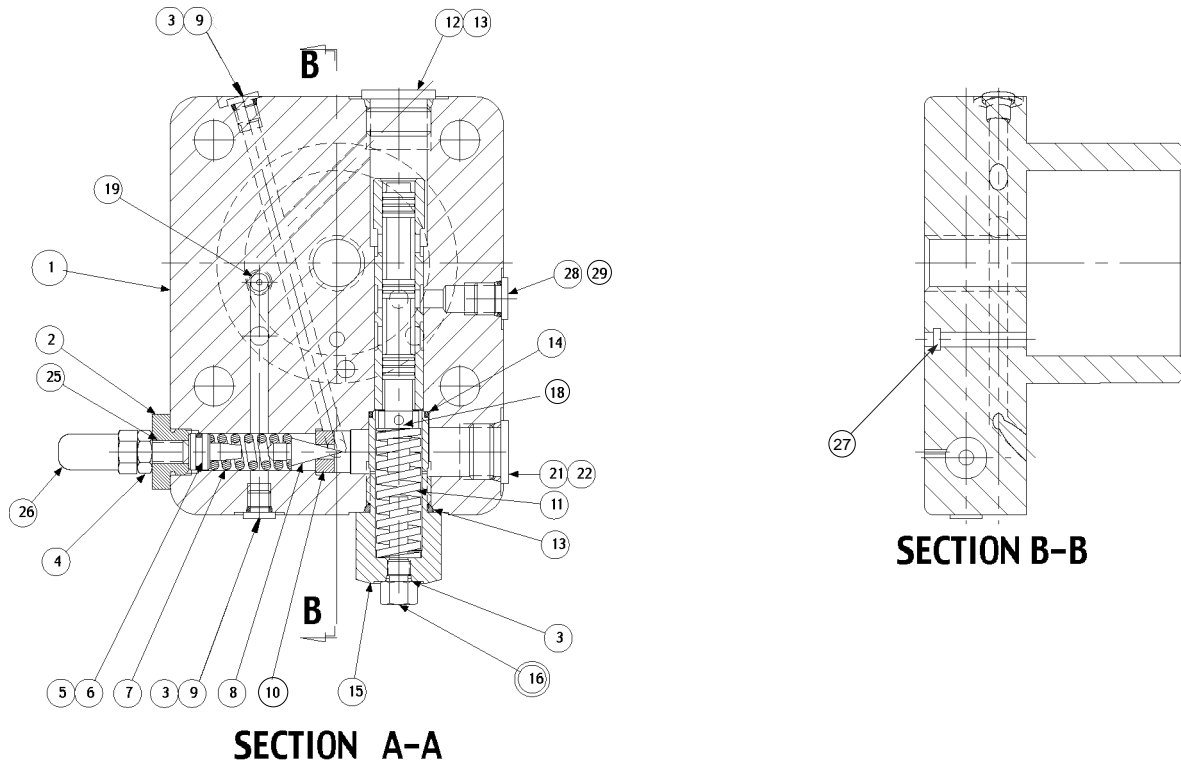
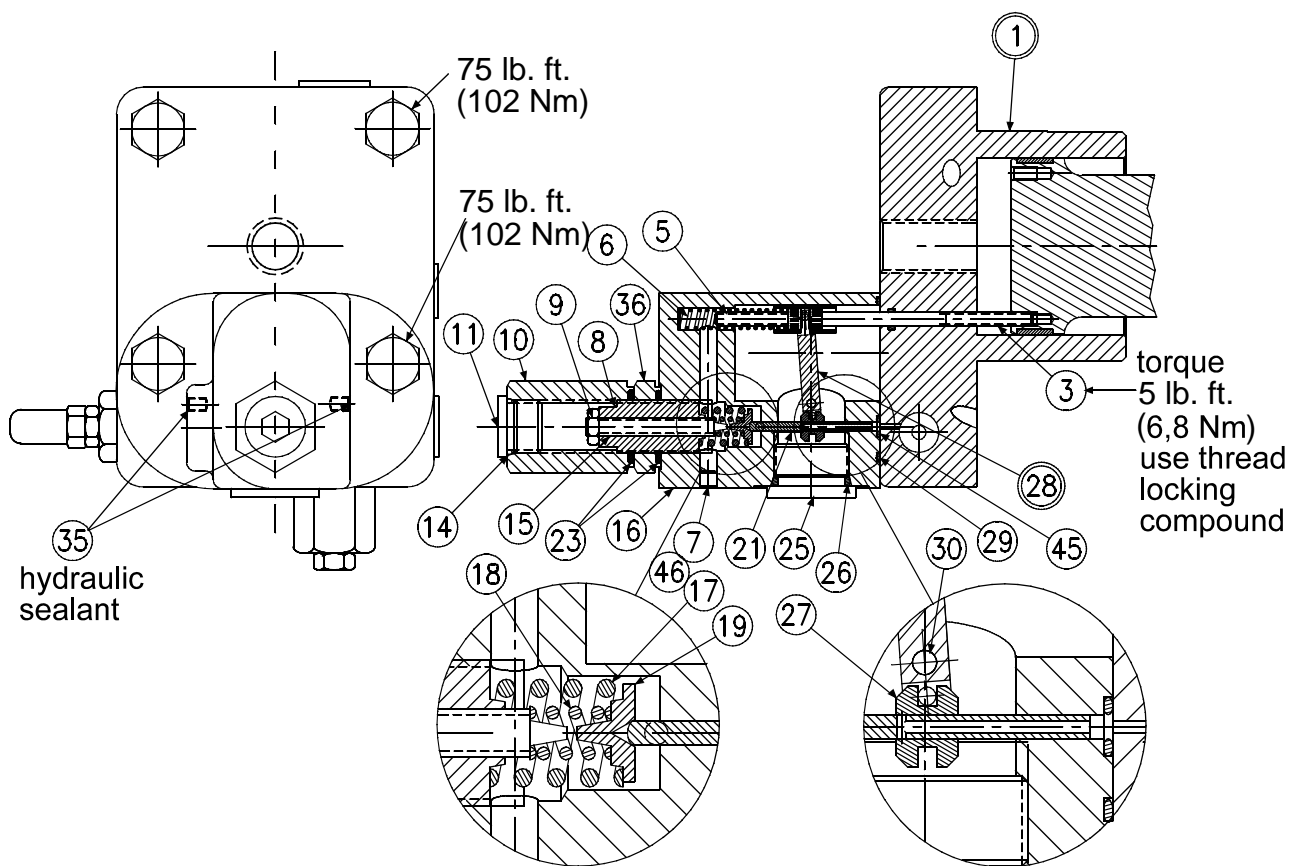

FIGURE 10
FIGURE 11
1. See Figure 11. Remove 2 screws holding torque limiter body (16) to cap assembly (1).
2. Remove all parts from torque limiter body (16) except pin (30) and arm assembly (28). It is not necessary to remove these parts unless broken or worn. Examine parts for wear or damage.
3. Remove screw (3). Examine head for excessive wear, and body for smooth sealing surface with O-ring.
5. Remove cap assembly (1).
6. See Figure 10. Remove plug (15) and attached parts. Remove spring (11) and spool (18).
7. Remove adjusting plug (2) and attached parts. Remove spring (7) and cone (8).
8. Do not remove sleeve in body (1). Sleeve is pressed into cap and finished to size. If sleeve or cap is worn, replace the cap-sleeve assembly (1).
9. Examine seat (10) for wear. Do not remove unless damaged.
1. See Figure 10. Install plugs (9) O-rings (3) and orifice (19) in body.
2. Press seat (10) into bore squarely against shoulder in bore.
3. Install spool (18) into bore as shown. Install spring (11) over end of spool. Install O-ring (3) on plug (16). Lubricate and install into plug (15). Install plug (15) into cap. Install plug (12).
4. Torque plugs to 75 lb.·ft. (102 Nm). Install plug (21). Torque to 46 lb.·ft. (62 Nm). Install plug (28). Torque to 11 lb.·ft. (15 Nm).
5. Install O-ring (6) on seal piston (5). Lubricate O-ring and install cone (8), spring (7) and seal piston (5) into bore in cap (1), being careful that cone enters seat (10). Install adj. plug (2), screw (25), nut (4) and acorn nut (26).
6. Carefully install O-ring (27) in the cap.
9. See Figure 11. Apply Loctite 242 on threads of screw (3), lubricate the shank, thread through the cap into the control piston, and torque to 5 lb.·ft. (6,8 Nm).
11. Press dowel (30) into body (16), through the link assembly (28), to 1/4" (6,35 mm) below surface. Apply Loctite hydraulic sealant to threads of screws (35) and install over dowel (30).
12. While sleeve (27) is engaged into dowel on link (28), slide spool (21) into bore of body (16), and through sleeve (27). Spool (21) must move freely and easily at all positions of the link (28).
13. Assemble remaining parts per drawing. While spring retainer is engaging clevis pin (5) under dowel of link (28), slide the other opening of spring retainer over the top of the screw (3). Attach body assembly (16) to cap (1), and torque screws to 75 lb.·ft. (102 Nm).
Ref. Figure 10
PARTS LIST FOR FIGURE 10
PARTS LIST FOR FIGURE 11